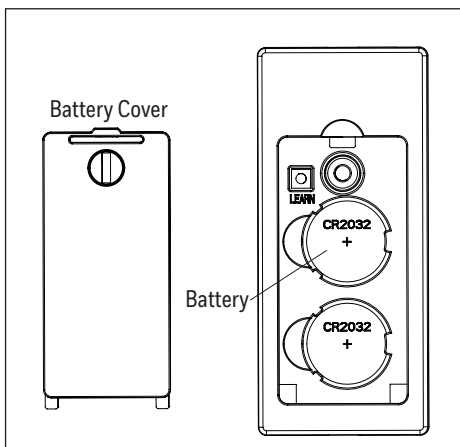

Figure 6.1
1. Remove the battery door from the back of the remote using a flat-head screwdriver (not included). Insert the two CR2032 batteries into the remote; ensure the positive pole of the batteries face up (as pictured) and then replace the battery door (Figure 6.1).